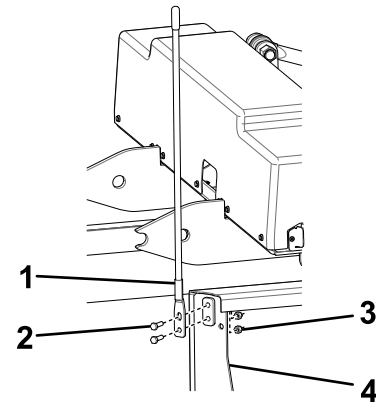

Figure 15
1. Attach the blade guides to the wing blade using 4 bolts (5/16 x 1 inch) and locknuts (**Figure 15**).